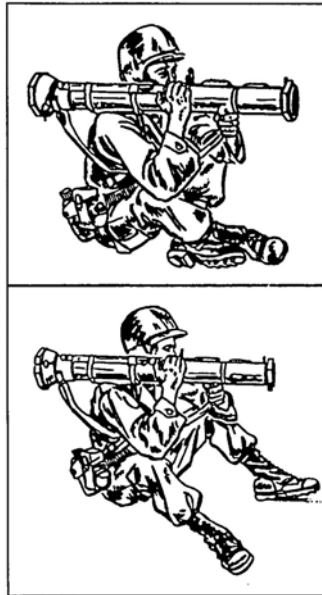

Figure 3. First and Second Sitting Positions
- (3) The sitting position with two variations (Figure 3).